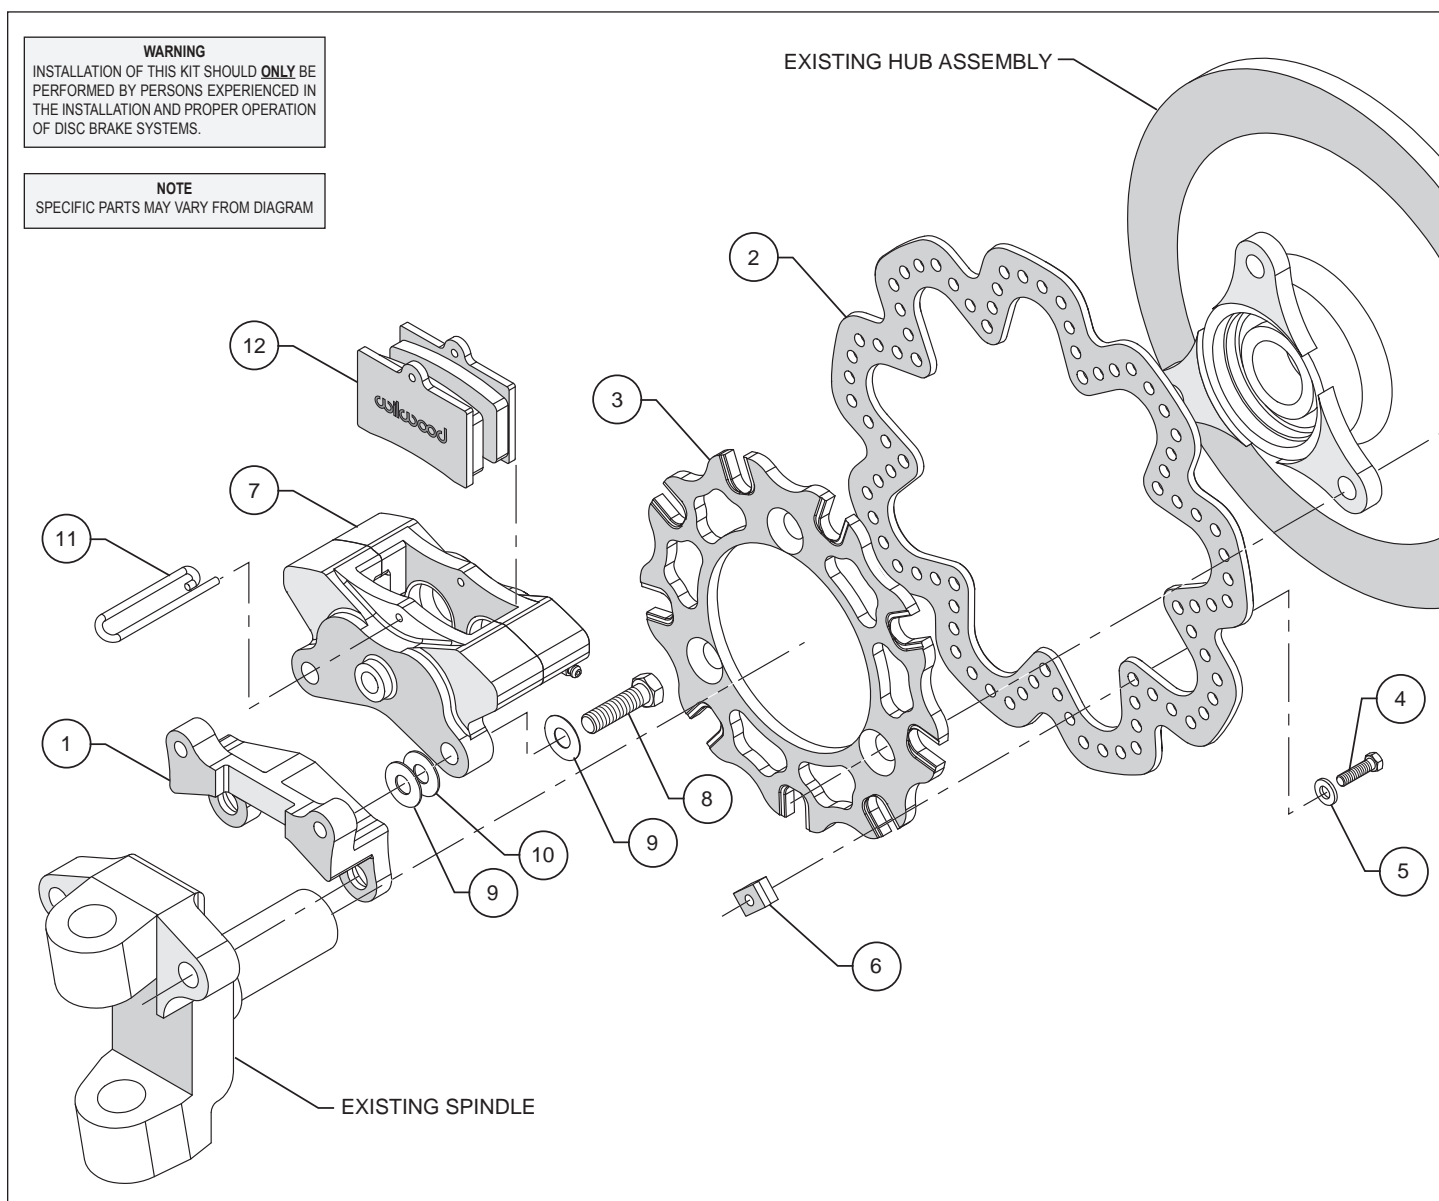

Figure 1. Typical Installation Configuration
• The caliper mounting bracket assembly (1) should be installed first with clean, dry threads on the mounting bolts. Install the bracket on the outboard side of the spindle by sliding customer furnished bolt and washer through the mounting holes and into the backside of the spindle (see Figure 1). The bracket must tighten squarely against the side of the spindle body. Inspect for interference from casting irregularities, machining ridges, burrs, etc.
• Mount the rotor adapter (3) with the notched t-nut slots facing inboard to the rotor (2) using bolts (4), and washer (5) slid through rotor holes from the outboard side and into the t-nut (6). Apply red *Loctite*® 271 to the bolt threads and torque bolts (4) to 120 in-lb.
• Slide the rotor/adapter assembly onto the hub assembly and secure using customer supplied hardware by sliding the bolt thru the ears on the hub assembly from the outboard side and screw into the adapter (3).
• Install the caliper (7) on the outboard side of the bracket (1) by sliding bolt (8) thru washer (9) and into the caliper mounting bracket (1). Initially place one shim each (9 and 10) between the caliper (7) and caliper bracket (1). The caliper bleed screws should be horizontal to the bracket (1). Snug the bolts (8) and check that the rotor (2) is centered in the caliper (7). Add or subtract .035" shims (9) and/or .016" shims (10) as necessary between the caliper mounting bracket (1) and the spindle to center the caliper (7) on the rotor (2).
• Remove the pad pin retainer (11) from the caliper (7). Slide the brake pads (12) into place. They should install easily without interference. Reinstall the pad pin retainer (11).